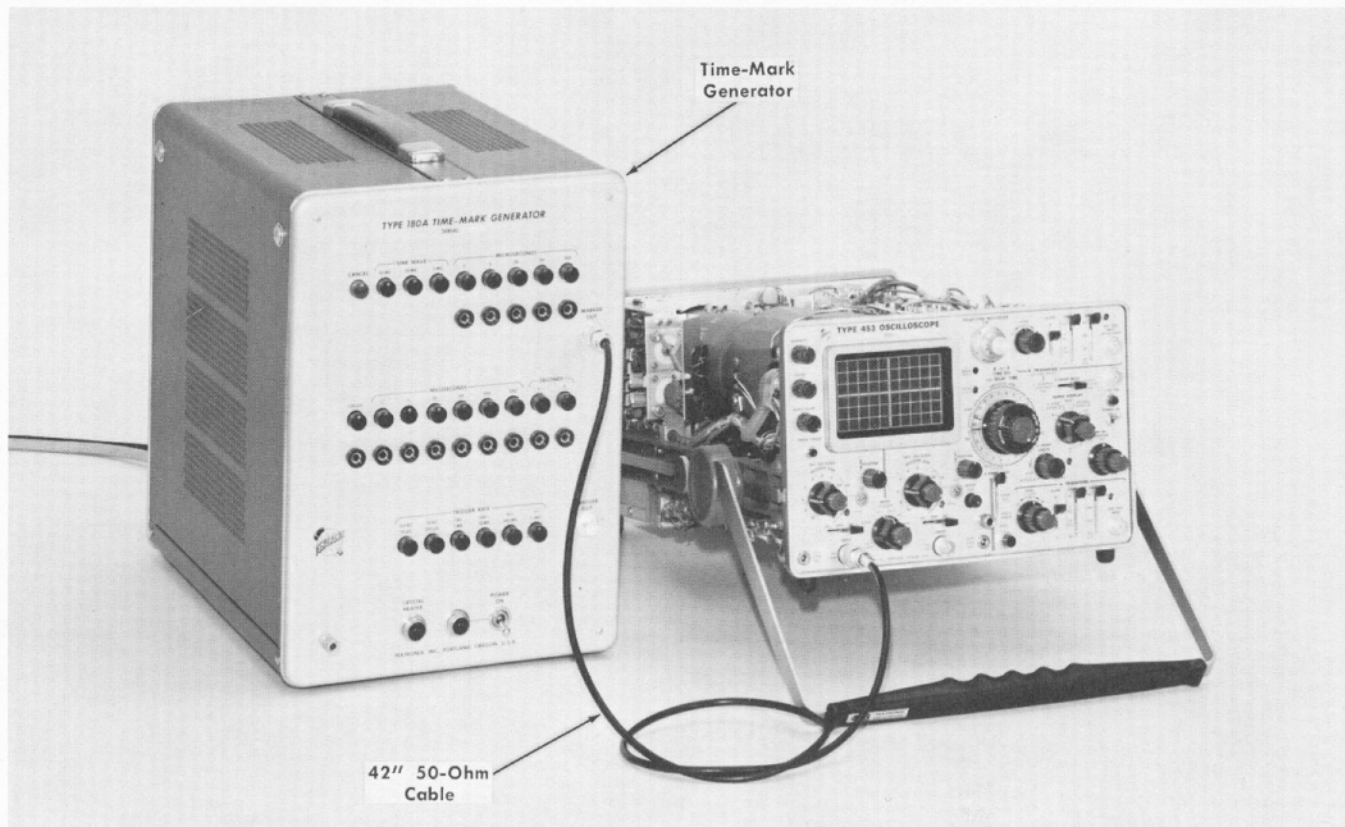

Fig. 6-42. Initial test equipment setup for steps 36 through 53.
- Test equipment setup is shown in Fig. 6-42.